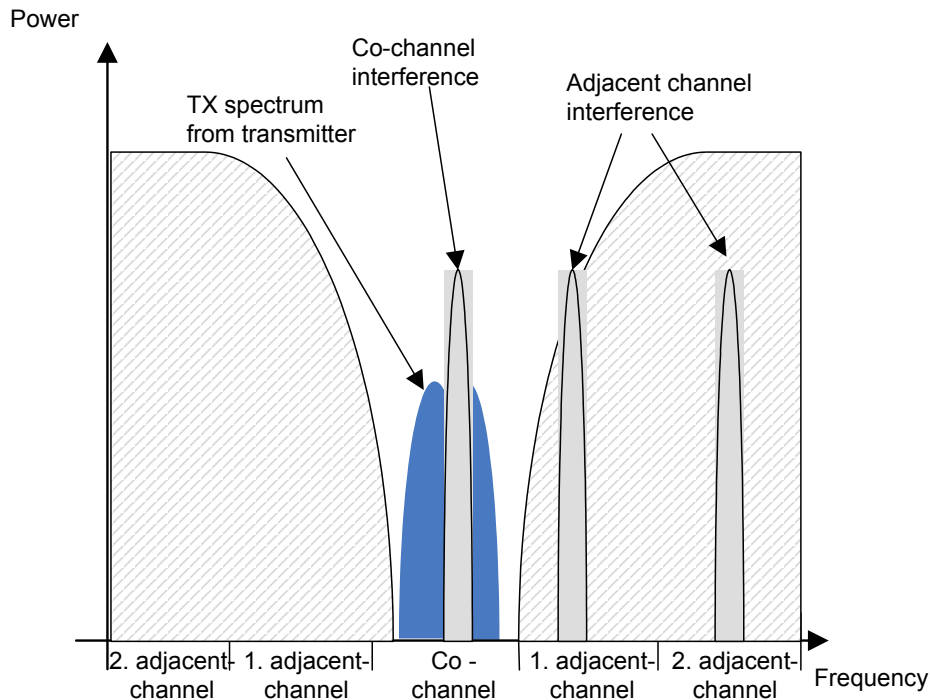

Figure 22. Co and adjacent channel interference
The RF channel is defined as the bandwidth (BW) that the radio under test requires for communication. The first adjacent (neighboring) channel is one bandwidth offset from the frequency used by the radio under test, the second is $2 \times BW$ offset and so on. This is illustrated in Figure 22.
Receiver selectivity is indicated by the shaded area in Figure 22.
If the input power received from an interfering system exceeds the selectivity of the receiver then the interference causes the receiver to make errors and you have an increase in the Bit Error Rate (BER). Figure 22 shows how a received interference signal with a certain power level may affect your receiver if it is the co-channel or 1st adjacent channel interference, while it is no problem if it is found in the 2nd adjacent channel or further away.